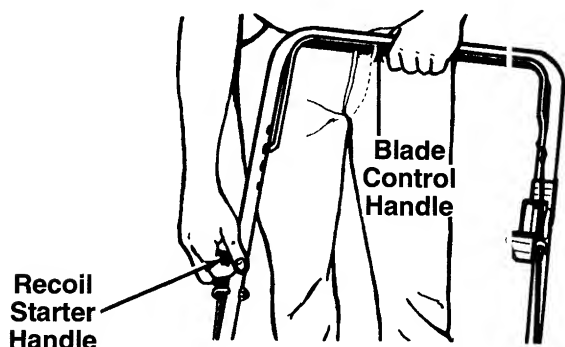

FIGURE 11.
4. Standing behind the unit, depress the blade control handle and hold it against the upper handle as shown. See figure 11.